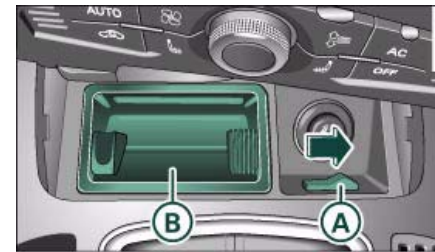

Fig. 95 Centre console: Ashtray open
- Slide the switch **(A)** ⇒ fig. 95 to the right to release the ashtray.
- Take out the ashtray **(B)** ⇒ fig. 95.